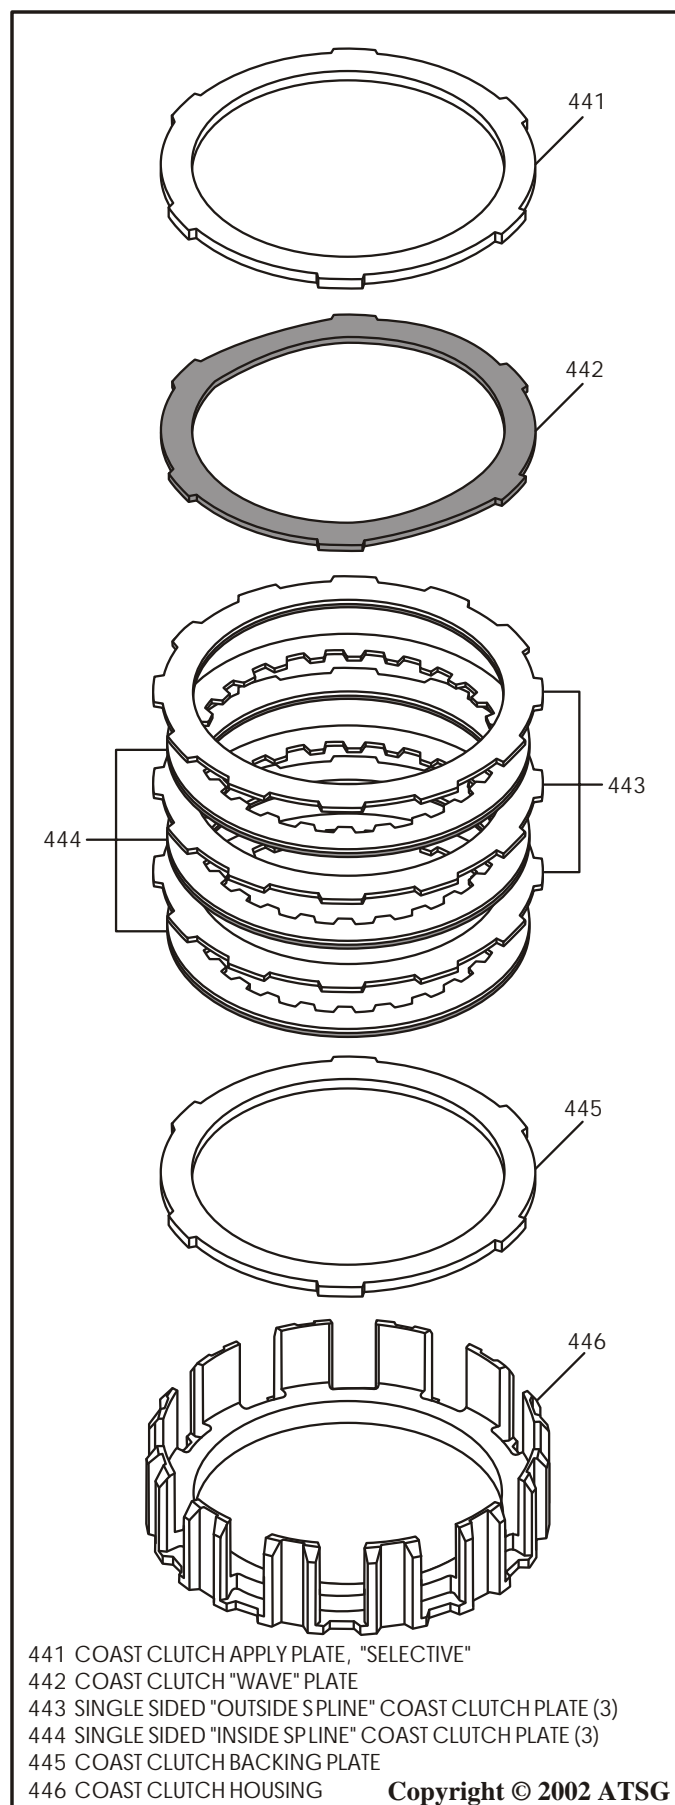

Figure 90
20. Lay the coast clutch housing on a flat surface in the direction shown in Figure 90.
21. Install the coast clutch backing plate into the coast clutch housing, as shown in Figure 90.
22. Install the coast clutch "single sided" plates beginning with an inside spline plate first and alternating with outside spline plates until you have installed 3 of each, as shown in Figure 90.
**Note:** *In this procedure, lined side must be installed facing down, as shown in Figure 90. Clutch plate amounts may vary by model.*
23. Install the coast clutch "Wave" plate on top of the last outside spline plate in the coast clutch housing, as shown in Figure 90.
24. Install the "Selective" apply plate on top of the wave plate, as shown in Figure 90.